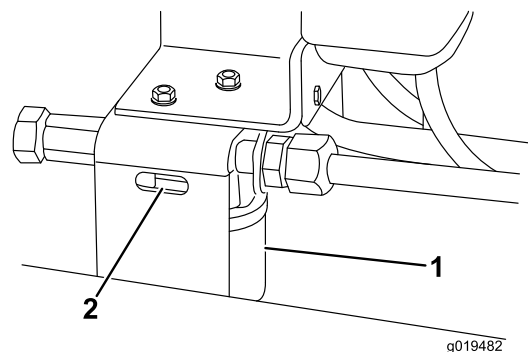

Figure 75
2. Clean area around filter mounting area. Place drain pan under filter and remove filter (Figure 75).